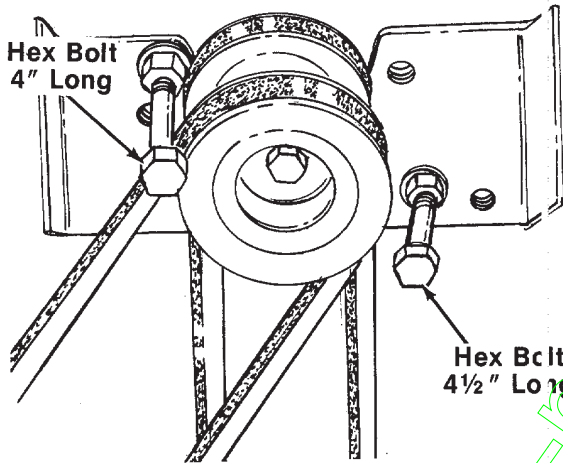

FIGURE 10.
ATTACHING THE DECK (See figures 10 through 13)
4. Thread hex nuts (X) onto hex bolts 4" and 4 1/2" long. Place belleville washers (Y) on hex bolts (crown side of washers go against the nuts).
5. Attach hex bolts 4" and 4 1/2" long to the engine pulley belt guard bracket to act as belt keepers. Assemble in the locations shown in figure 10.